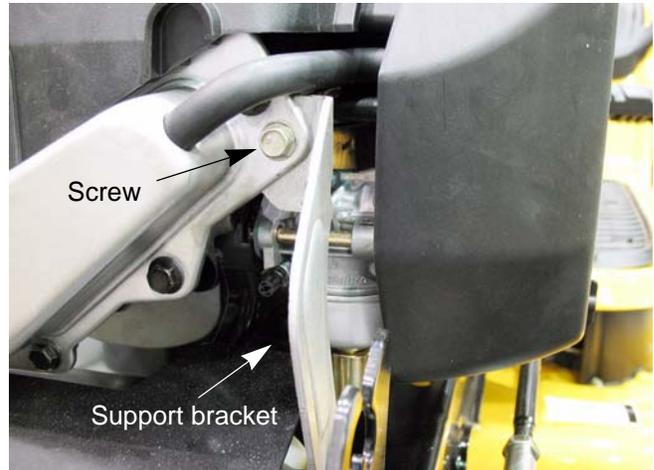

Figure 2.3
- Remove the screw that fastens the muffler support bracket to the cylinder head. See Figure 2.3.